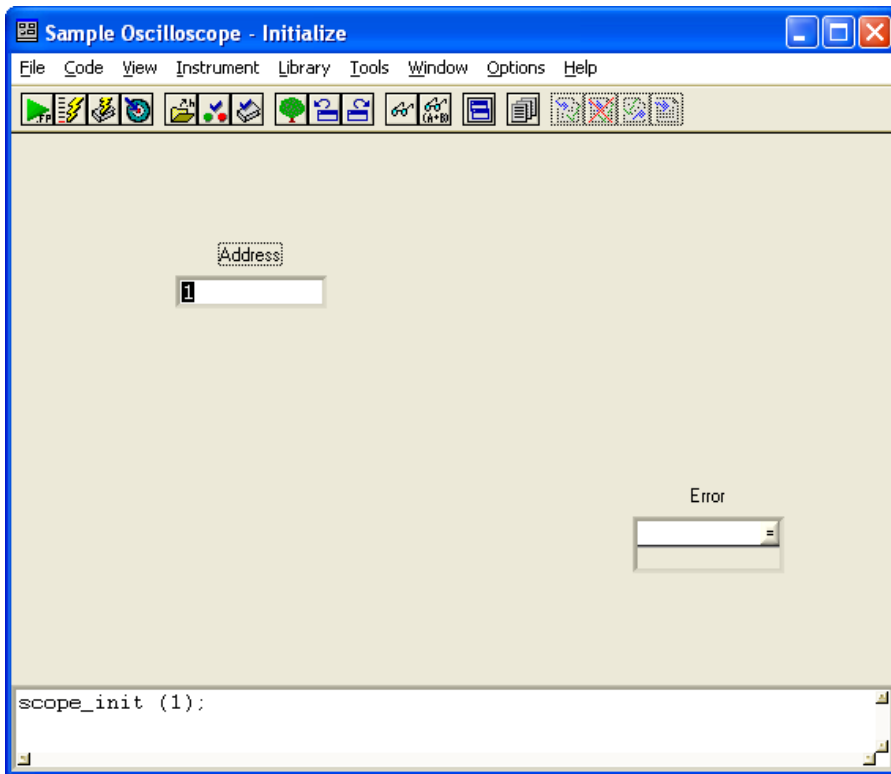

Figure 3-9. Initialize Function Panel
2. Double-click **Initialize** to open the Initialize function panel, as shown in Figure 3-9.